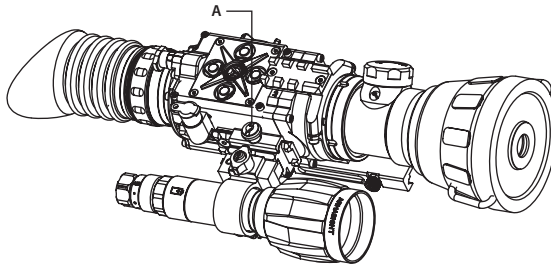

FIGURE 3-9. XLR-IR850 ILLUMINATOR INSTALLATION
3. With the nut of riser (Figure 3-9, A) loosened, install the illuminator on the Weaver rail so that the recoil stop of riser slides into one of the transverse slots of the rail.
4. Tighten the nut of riser (A).